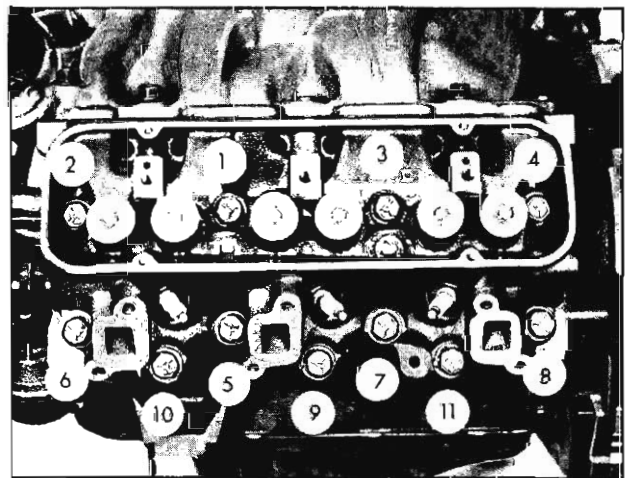

Fig. 3-111 Cylinder Head Bolt Tightening Sequence
6. Tighten the head bolts a little at a time about three times around in the sequence shown in Fig. 3-111, then torque the bolts in the same sequence to 65-70 ft. lbs.